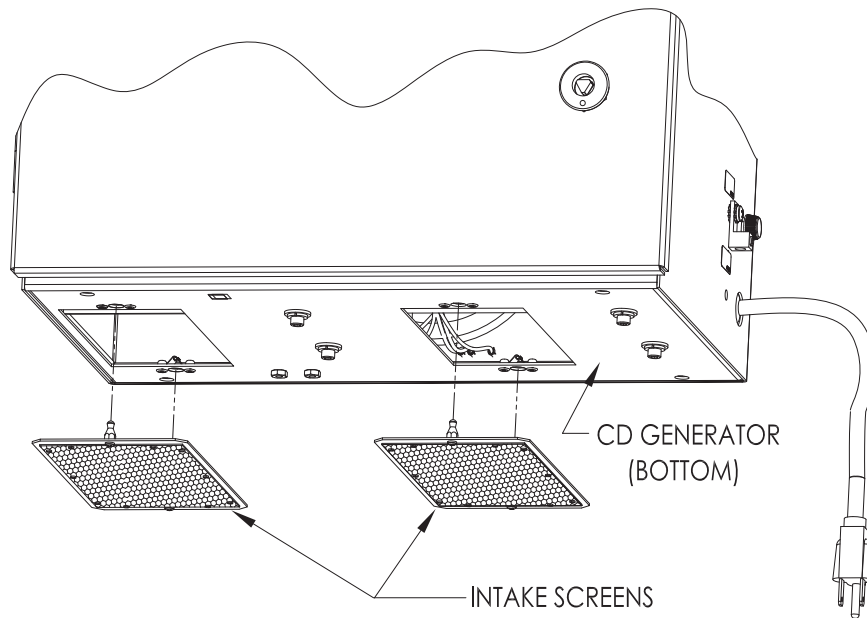

Figure 3: Intake Screen Replacement
1. **Corona Discharge (CD) Module:** The Generator module consists of a High Voltage electrode wrapped around a Teflon core inserted in a ceramic insulating tube. The assembly is encased in a thermally protected aluminum heat sink.
7. **Intake Screens:** Easily removable screens keep debris from entering the enclosure. See figure 3.